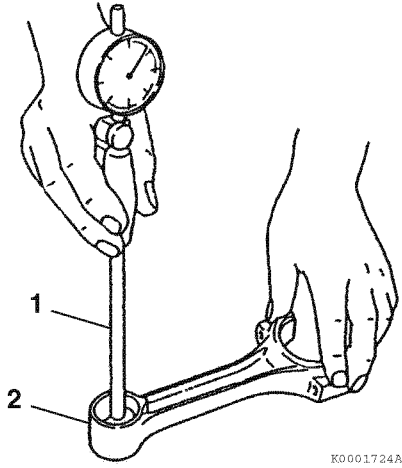

Figure 6-56
1. Measure the wrist pin bushing bore using a bore gauge (1, **Figure 6-56**). Record the measurement. Replace the bushing if not within specifications. If the bushing has been removed, measure the inside diameter of the connecting rod small end (2, **Figure 6-56**). See *Connecting rod* on page 6-12 for specifications.